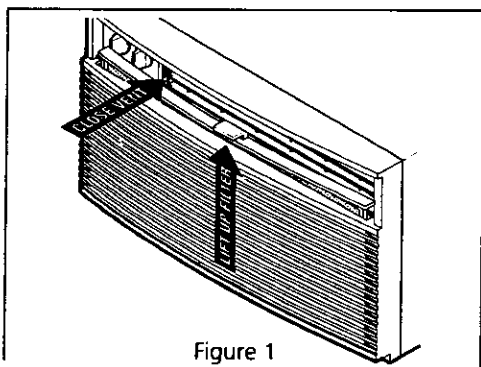

Figure 1
- Some models, push the vent control handle to the OFF position. Lift the filter straight up and out (Figure 1).